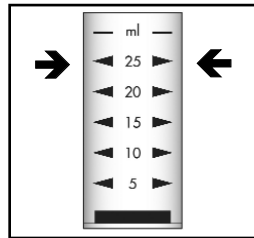

Figure 1
4. Fill the sample cup to the 25 mL mark with the sample to be tested, being careful to minimize turbulence (fig. 1).